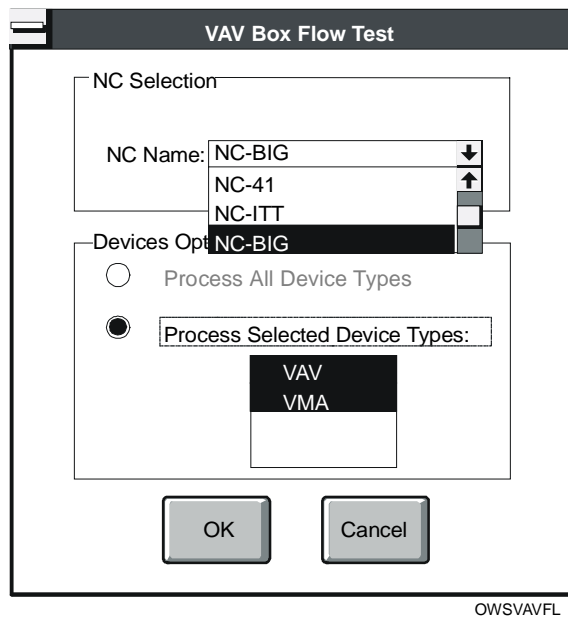

Figure 16-20: OWS - VAV Box Flow Test Dialog Box
3. Select the Flow Test Parameters, then click OK. The dialog box shown in Figure 16-20 appears.